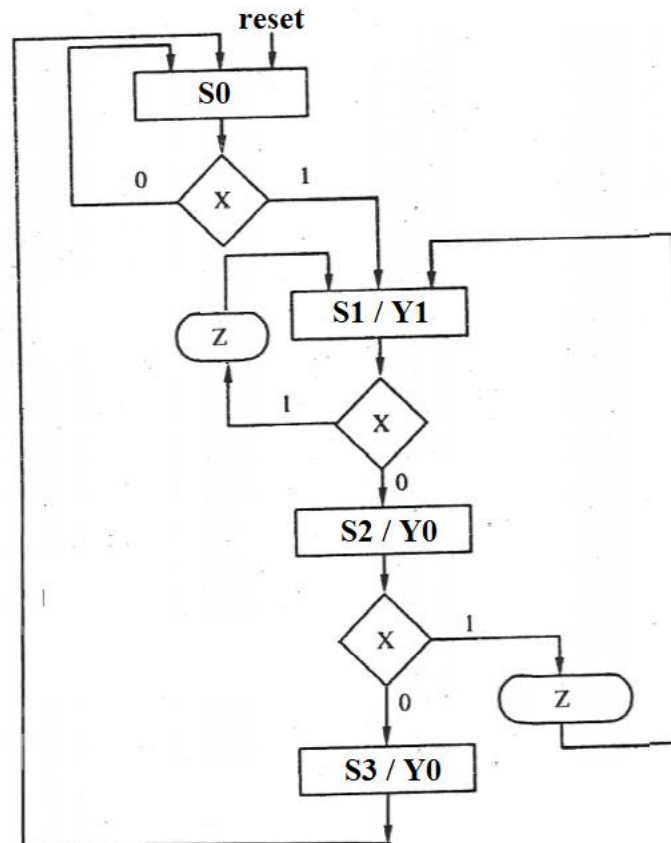

Figure 1. ASM diagram
Step 3. LFSR Design and Testbench Simulation of Fig. 1 Circuit